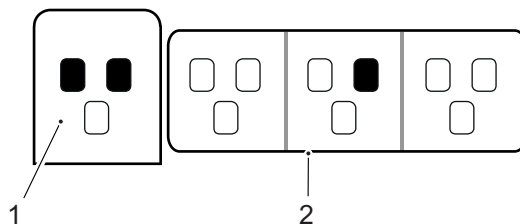

Fig. 3-37 AEC field selection
When selecting the *AEC field* button, a pop-up-window with the different AEC fields appears, see **Fig. 3-37**. The AEC fields are activated by selecting them in the pop-up window (2) to the right. All activated AEC fields are shown at (1). AEC fields are deactivated by selecting them again in the pop-up window (2).